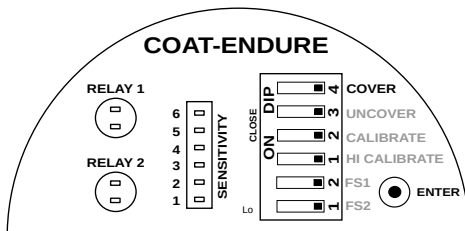

Figure 9: Saving Cover Delay
- Delay is entered, but not saved. To save and test the Cover Delay, set the COVER switch back to OPEN position as shown in Figure 9. The STATUS LED of Relay 1 will come back to its original position.